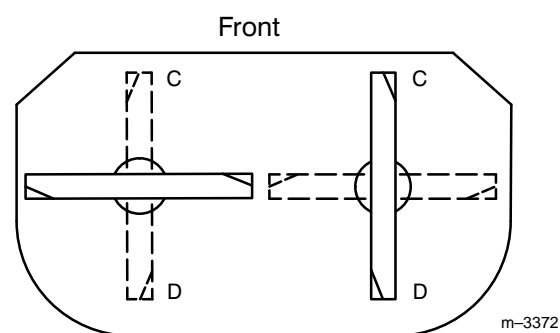
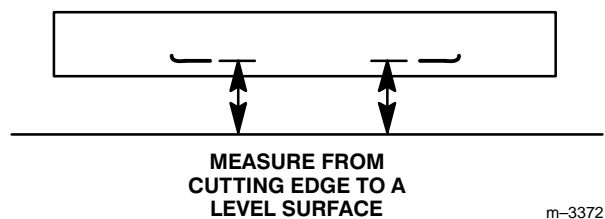

Figure 61
Figure 62
2. Position one blade front-to-rear (Fig. 61). Measure at "C" and "D" locations (Fig. 61) from a level surface to the cutting edge of the blade tips (Fig. 62).